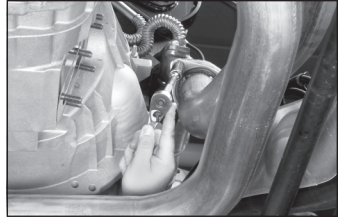

Fig. 1
2. If the vehicle is equipped with the 8.1L Gas Engine, it may be necessary to remove the three (3) bolts & studs that connect the right exhaust pipe and the right side engine exhaust header. (Fig. 1) This will allow the exhaust pipe to be moved slightly away from the P.T.O. opening for installation of the P.T.O. to the aperture pad.